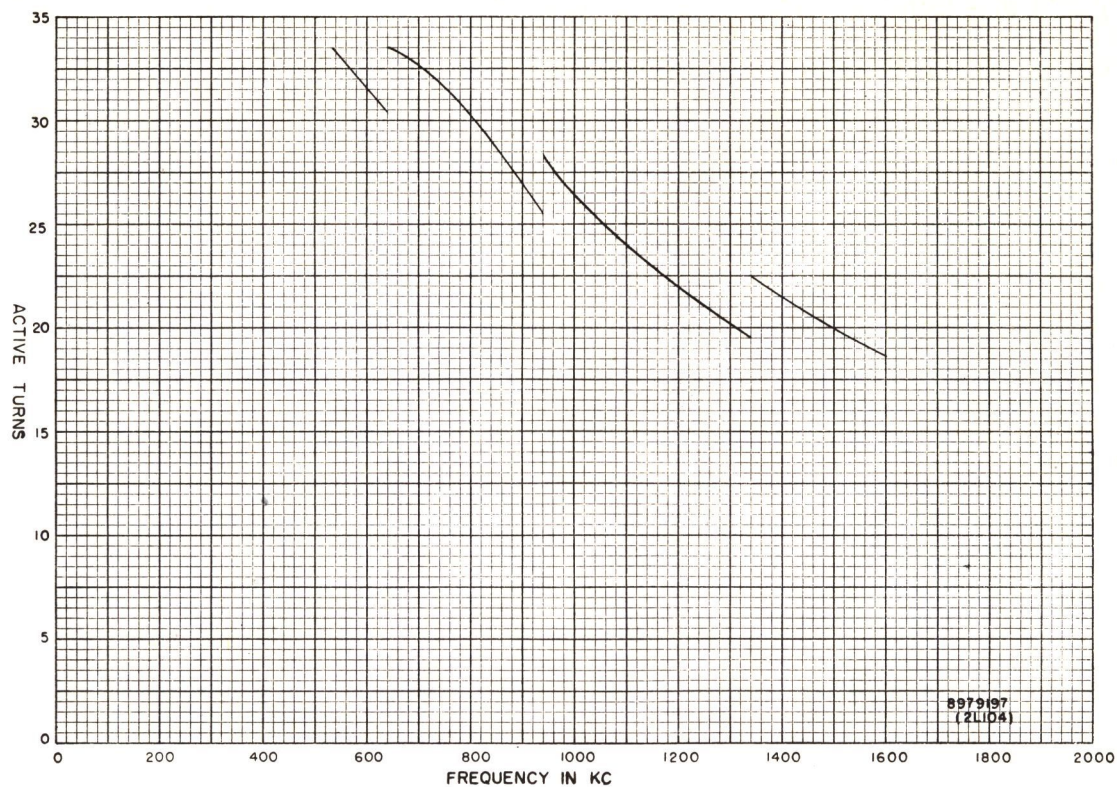

Figure 3—Tuning Chart, Coil 2L104
5. Tuning charts, showing the number of active turns used on the various tank coils for a given frequency, are shown in Figures 3 thru 10. The PA network coils are located in the Amplifier-Rectifier cabinet, Figure 18. The driver coil, 1L301, is located in the Transmitter-Driver cabinet, Figure 21. Connect the jumper on each coil, except coils 2L110 and 2L111, according to the appropriate frequency curve indicated on the tuning chart of each coil. Tap settings of buffer coil 1L601 are given in Table 11. All turns on coils 2L110 and 2L111 should be shorted, initially.